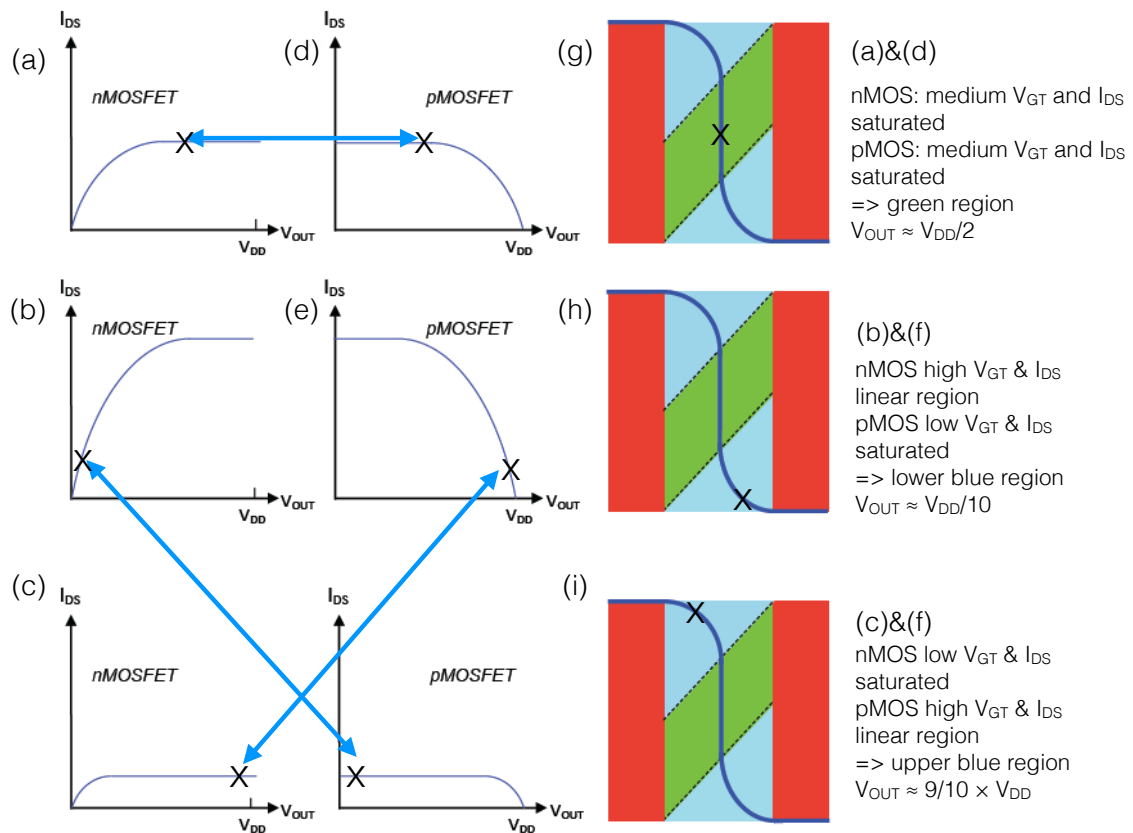

Figure 12.5: Solution to problem 5.1
The solution is shown in Figure 12.5.
- b) To find the output voltage one has to consider the voltage at which the two current curves that correspond to the same input voltage cross. Thus, we find that for  $V_{IN1}$  the bias point is in region B, for  $V_{IN2}$  in region C, and for  $V_{IN3}$  in region D. See also Figure 12.5 where graph (i) corresponds to  $V_{IN1}$ , (g) to  $V_{IN2}$ , and (h) to  $V_{IN3}$ .